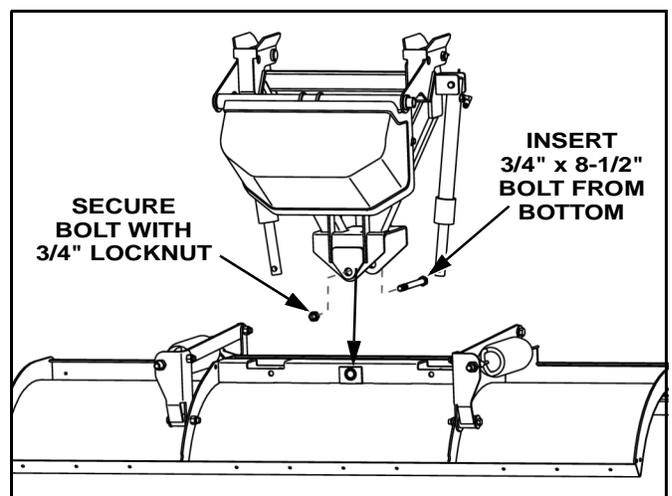

Figure 1-7
13. With the blade still face down pick up the power unit and slide the A-frame over the blade. Insert the 3/4\" x 8 1/2\" bolt from the bottom up and secure with a 3/4\" lock nut. (See Figure 1-7)